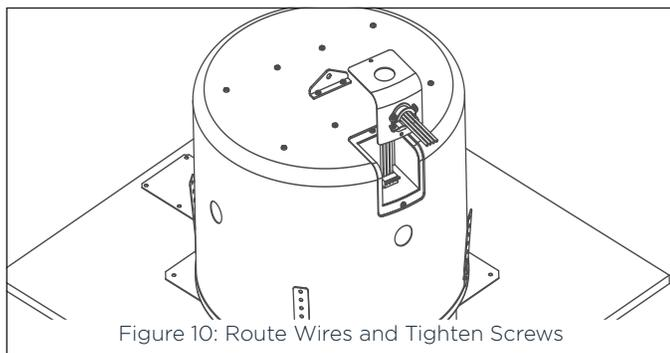

Figure 10: Route Wires and Tighten Screws
- Route the wires through the Strain Relief Fitting on the back of the back box. Tighten the screws on the strain relief to clamp the wires. Make sure not to over-tighten the screws and damage the wire (see Figure 10).